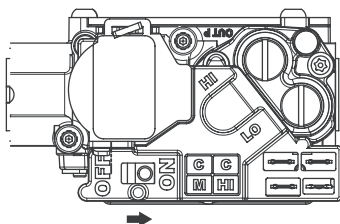

Fig. 13 - Control Switch to ON
6. After waiting 5 minutes, turn the control switch on the gas control to the ON position. (See Fig. 13 or 14.)